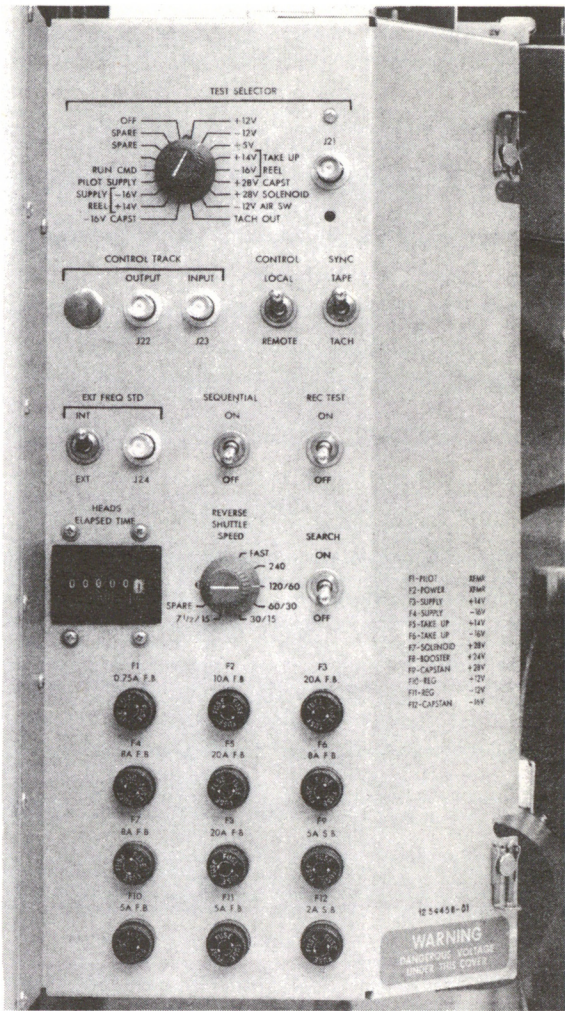
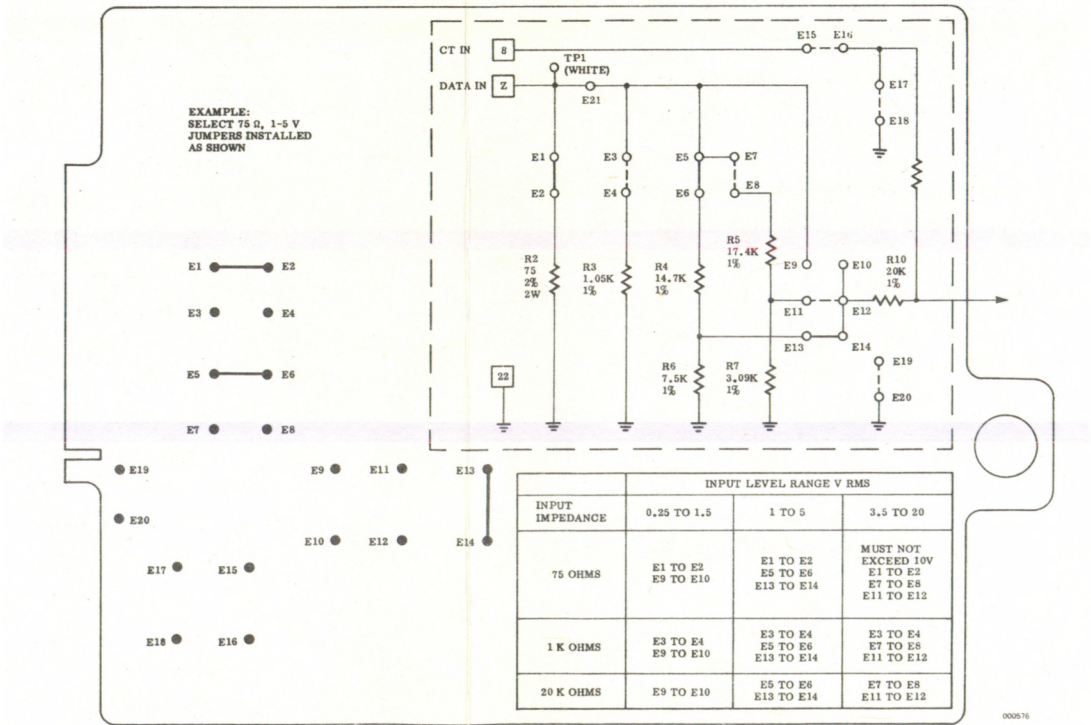

Figure 3-3. Inner Test Panel Controls and Indicators
Figure 3-6. Direct Record Amplifier, Showing Jumper Positions
The controls and indicates on the inner test panel are shown in Figure 3-3. Their type and functions are described in Table 3-3. The associated Schematic Diagram 1254487 is to be found in Section 7 of the FR3000 Transport Maintenance Manual 1802854.
- c. If control track recording is desired, an optional control track printed wiring assembly must be installed in J107 of the power and servo unit. In addition a jumper cable must be connected between CONTROL TRACK OUTPUT. J22, on the inner test panel (see Figure 3-3) and the appropriate RECORD INPUT bnc, on the rear of the electronics tray set the record amplifier input impedance to 75 ohms (see Figure 3-6).
- d. Monitor the data or test signal input to each connector with a suitable oscilloscope or meter to ensure correct record signals. The input sensitivity and impedance of each record module is determined by inserting jumpers in the module as shown in Figure 3-6. (See paragraph titled "Changing Input Sensitivity Ranges and Impedances.") Record level control adjustment is discussed in paragraph titled "Record Level
RECORD LEVEL CONTROL ADJUSTMENT. If the record input signal level is different in amplitude from that for which the equipment was last calibrated, or the calibration level is unknown, the REC LEVEL control must be adjusted. Do not adjust the REC LEVEL control to compensate for changes in output load. If the new input amplitude is not within the input sensitivity range for which the record module is jumpered (see Figure 3-6 for the ranges), a different range must be selected, as detailed below. In order to adjust the REC LEVEL control, the operator must know the full scale reproduce output level for which the reproduce amplifier is calibrated (the STANDARD OUTPUT LEVEL). To adjust the REC LEVEL control proceed as follows:
The direct record electronics has three input sensitivity ranges and three input impedances as listed in Figure 3-6. These ranges and impedances are selected by jumpers which plug into appropriate positions on the direct record amplifier. To change from one range or impedance to another, proceed as follows:
- c. Arrange jumpers on the module to obtain the desired input sensitivity and impedance as illustrated in Figure 3-6.
the record or reproduce level settings without referring to paragraphs titled "Record Level Control Adjustment" and "Changing Input Sensitivity Ranges and Impedances". If control track is to be used for capstan sync, an optional Control track pwa must be installed in J107 (Power and Servo Unit). If a control track was recorded during the record mode, the reproduced Control track signal must be patched into J23, CONTROL TRACK INPUT (located on the inner test panel - see Figure 3-3).
REPRODUCE LEVEL ADJUSTMENT. The reproduce gain (Level) control should be adjusted only to compensate for changes in output load requirements, not for changes in input level. In order to adjust the output GAIN ADJ control, the operator should know the maximum record input level range for which the channel is to be calibrated (see table in Figure 3-6). The operator should also know that the record level control is correctly adjusted (see Record Level Control Adjustment). To adjust the reproduce GAIN ADJ control, proceed as follows: